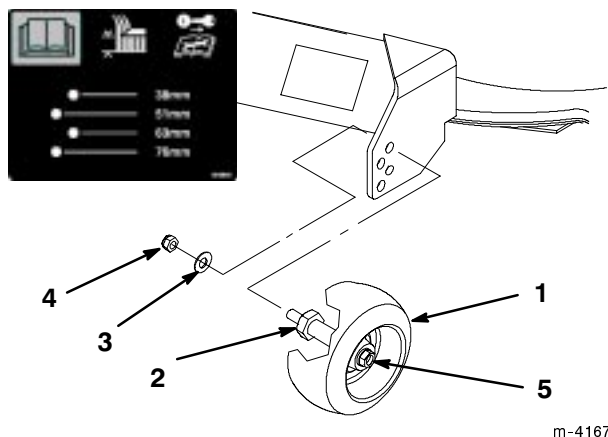

Figure 28
2. After adjusting height-of-cut remove nut and washer while holding stud with wrench (Fig. 28).
Note: Do not remove the wheel nut and washer (Fig. 28).
3. Select hole so gage wheel is positioned to the nearest corresponding height-of-cut desired (Fig. 28).
4. Reinstall the stud nut and washer (Fig. 28).